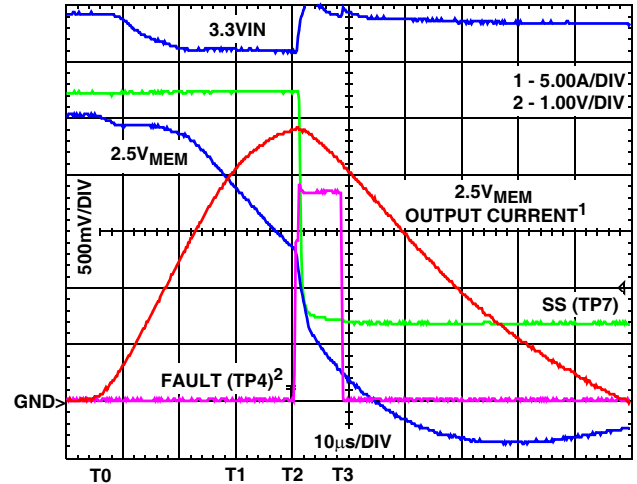

FIGURE 13. HIP6500BEVAL1 2.5VMEM OUTPUT UNDERVOLTAGE RESPONSE WHILE IN ACTIVE STATE (S0, S1)
Figure 13 depicts the circuit's behavior in response to a sudden output short-circuit (output under-voltage), applied, in this scope capture, on the 2.5VMEM output, while operating in active state. At time T0 a short-circuit is applied using an electronic load - as a result, the 2.5V output starts to rapidly discharge, crossing the falling under-voltage threshold at time T1. To avoid false triggers, the UV detector is equipped with a 10μs filter. As the output voltage remains below the undervoltage (UV) threshold for more than 10μs, it triggers a fault response at time T2. The logic high output on the FAULT pin sets the external fault latch circuitry which shuts down the ATX supply and quickly discharges the SS capacitor below the chip shutdown level, reached at time T3. The chip reset disables the fault reporting and the latch maintains the circuit in a reset state. The latch is necessary to compensate for the slow response of the ATX supply, by shutting down the controller IC, along with the pass elements. Depressing the CLEAR FAULT button resets the latch and releases the circuit for operation.